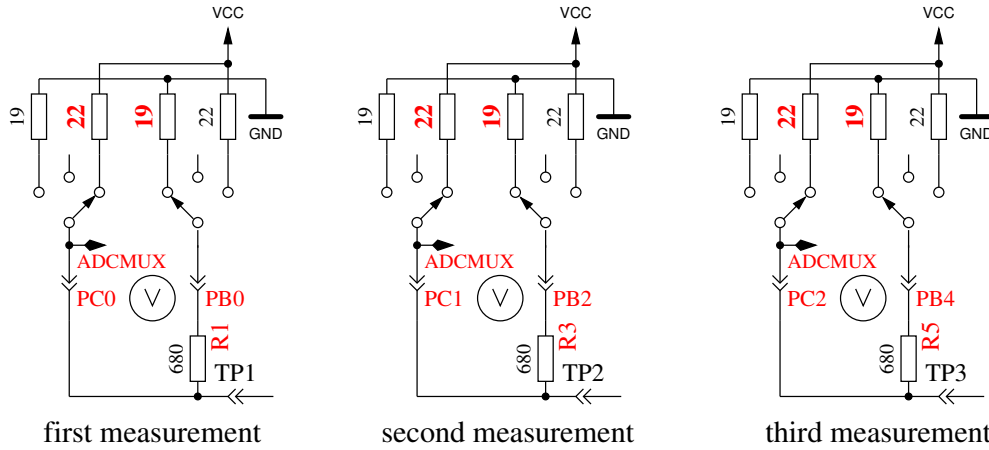

Figure 5.29: Measurement of internal resistance of Port C switched to VCC
8. **Measuring of internal resistance of port outputs switched to the VCC (+)signal.** The needed current is generated with to GND connected 680Ω resistors . The text in the 1st LCD row is “Ri\_Hi= (mV)”. In the second row of the LCD three voltages are displayed (in difference to VCC). It are the same measurements as those in test 7 to the other side as you can see in Figure 5.29. With the following steps you can get the resistance: To get the current build:  $(5001 - (resultoftest7) - (resultoftest8))/680$ . Then you can get both resistor values by dividing the voltage (result of test 7 or 8) by this current.